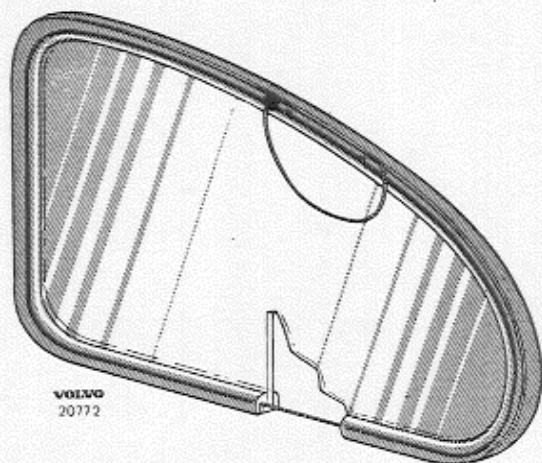
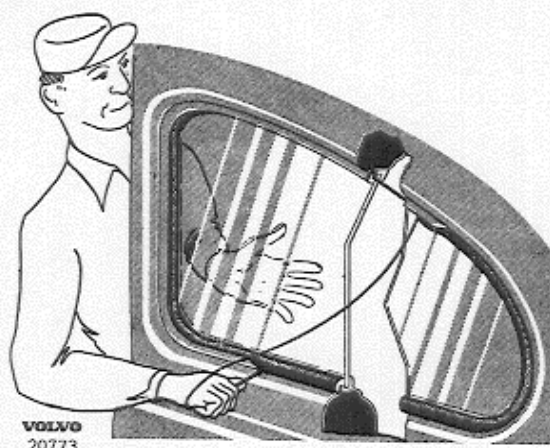

Fig. 49. Side window with cord
Fig. 50. Fitting the rear side window
4. The pane is fitted by placing both it and the cord in the rubber weatherstrip as shown in Fig. 49. Hold the pane pressed against the opening and pull the cord, see Fig. 50.